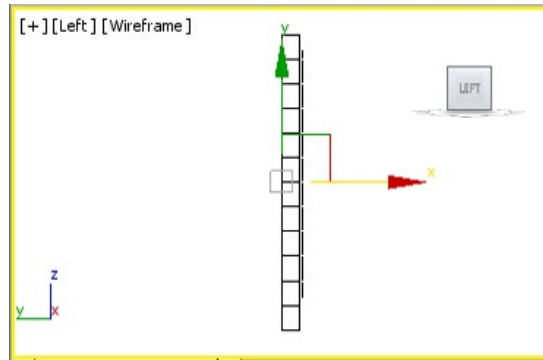

Figure 8-130 Alignment of the back portion with the front part in the Left viewport
6. Activate the Left viewport and align *back portion* with the back of *front part*, as shown in Figure 8-130.